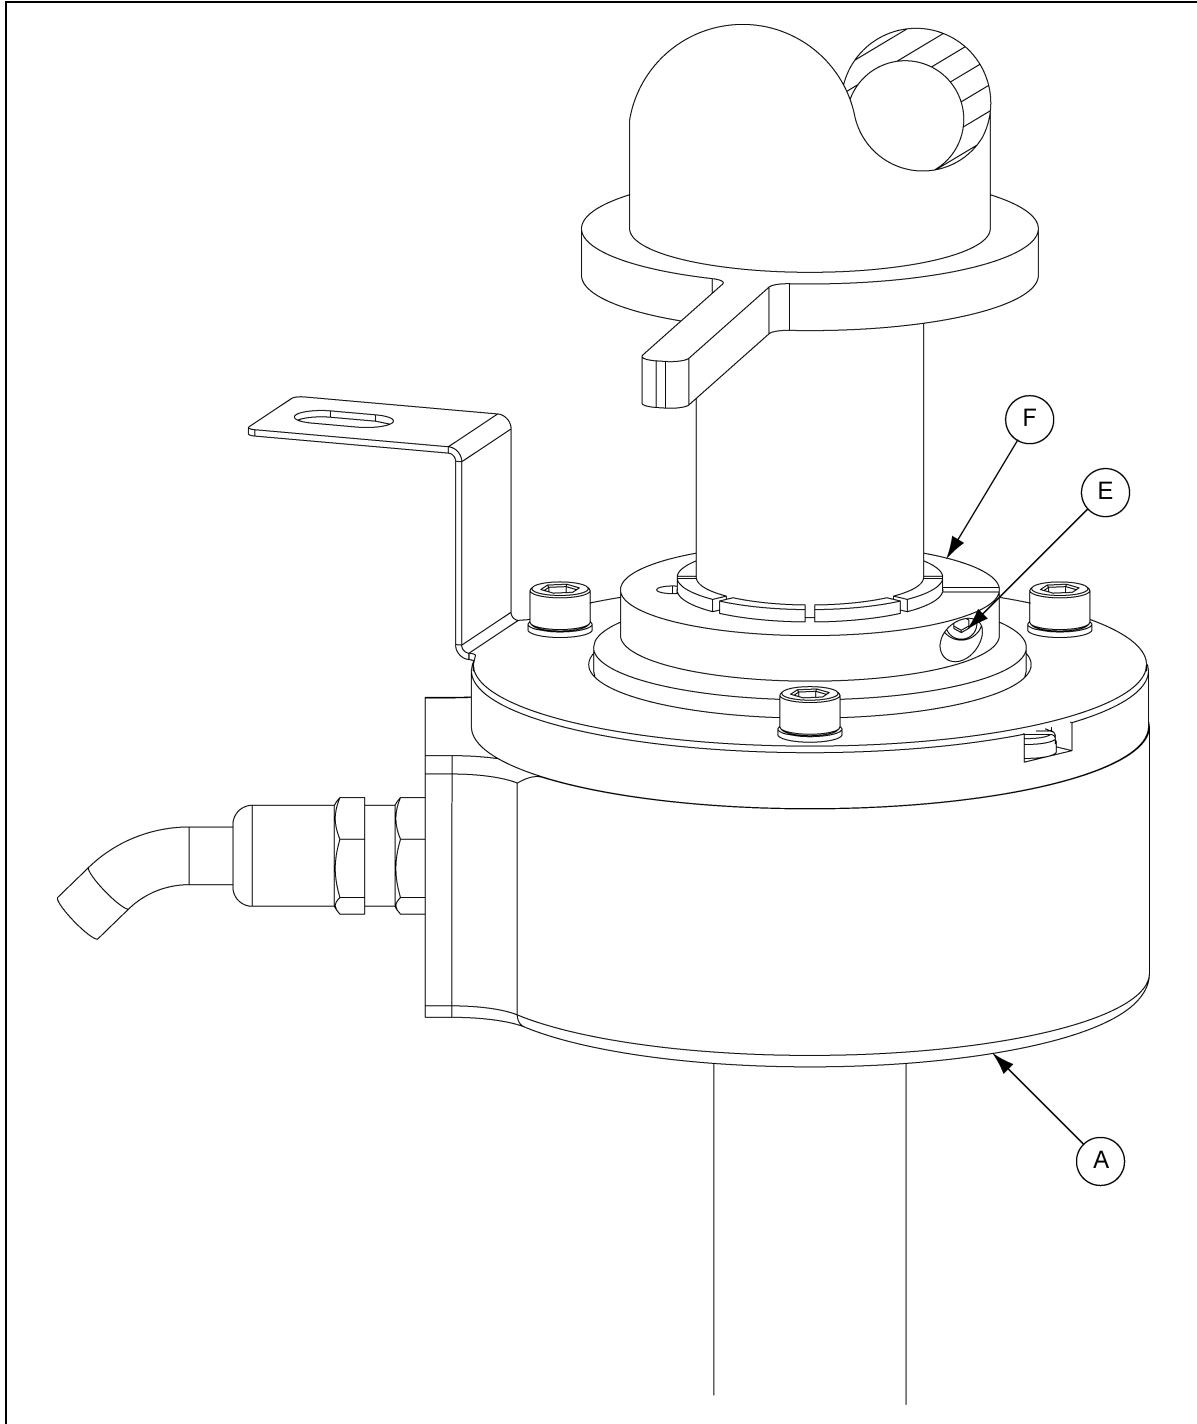

Figure 6H Encoder Collar Set Screw
Tighten the encoder collar set screw (E) as shown in Figure 6H on Page 49 to 8 in-lbs.